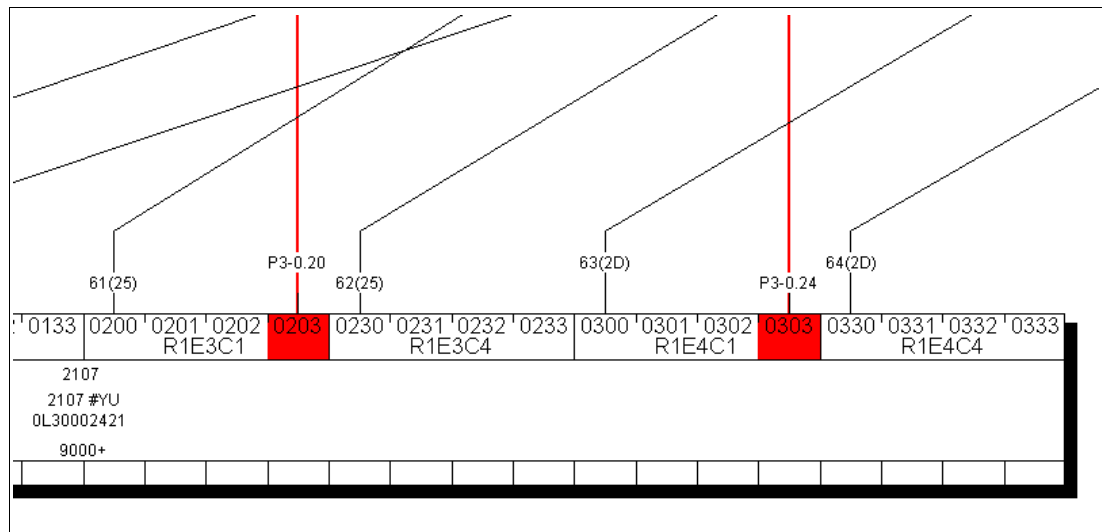

Figure 5-17 HCM DASD point-to-point connections
10. Select CHPIDs 20 and 24 from processor SCZP301, and then click **OK**. See Figure 5-17.